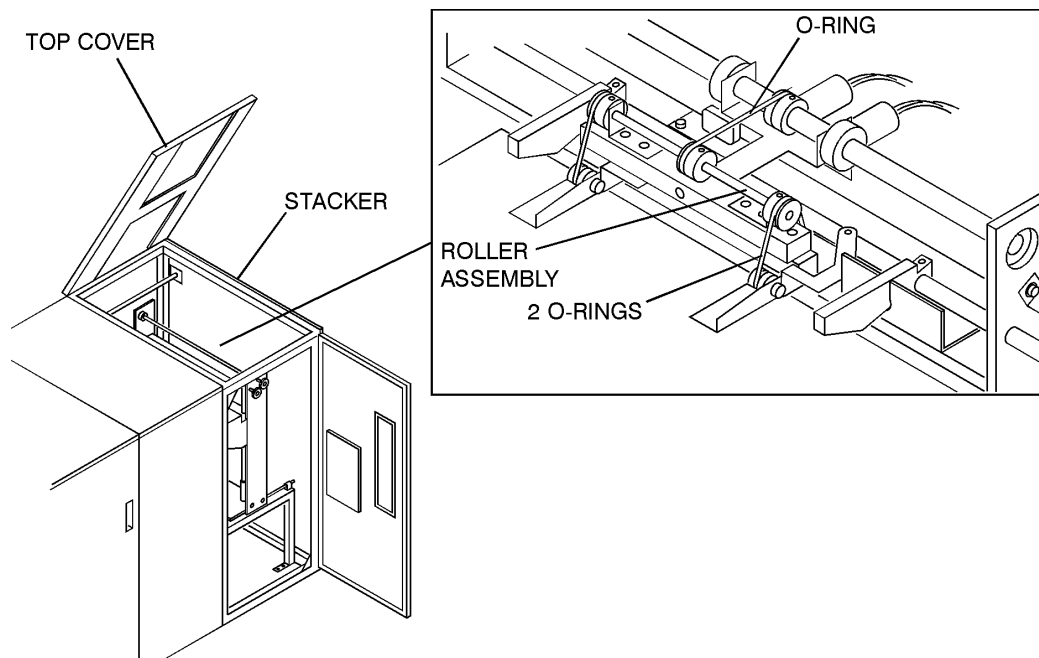

Figure 4-4: Cleaning the Stacker
- 1 Open the Stacker Top Cover, as shown in Figure 4-4.
- 2 Clean the two orange O-rings on the Roller Assembly, as shown in Figure 4-4, using only 90% Isopropyl alcohol and a clean lint-free cloth.